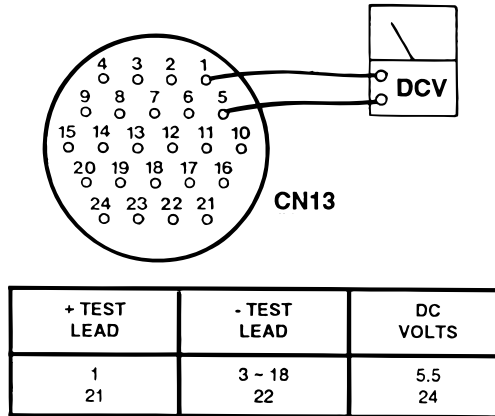

Figure 7-14. Table Base Connector
3. Use a DC voltmeter and measure the following pins located in the 24 pin table base connector CN13. See figure 7-14.